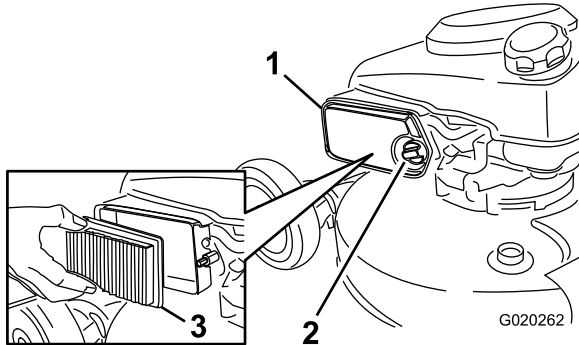

Figure 24
2. Unscrew and open the air-cleaner cover (Figure 24).